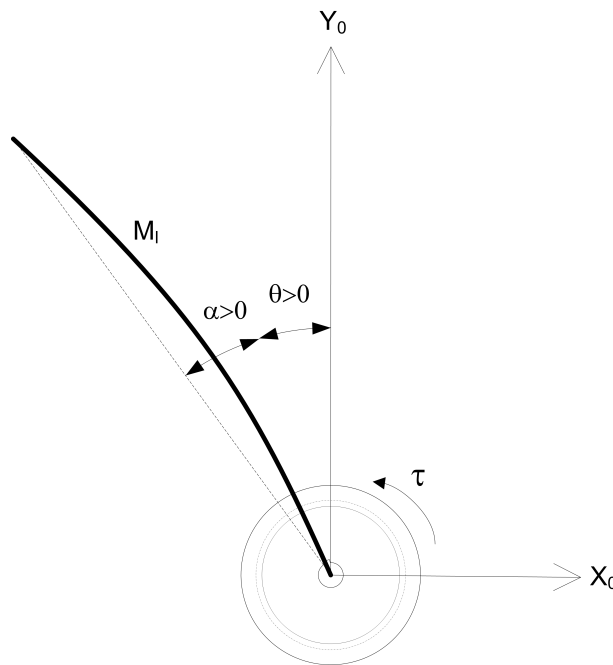
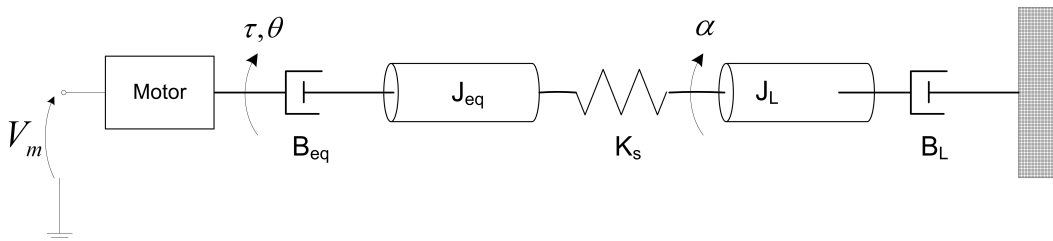

Figure 2.1: Rotary Flexible Link Angles
Figure 2.2: Rotary Flexible Link Model
The Rotary Flexible Link model is shown in Figure 2.1. The base of the flexible link is mounted on the load gear of the SRV02 system. The servo angle,  $\theta$ , increases positively when it rotates counter-clockwise (CCW). The servo (and thus the link) turn in the CCW direction when the control voltage is positive, i.e.,  $V_m > 0$ .
The flexible link system can be represented by the diagram shown in Figure 2.2. Our control variable is the input servo motor voltage,  $V_m$ . This generates a torque,  $\tau$ , at the load gear of the servo that rotates the base of the link. The viscous friction coefficient of the servo is denoted by  $B_{eq}$ . This is the friction that opposes the torque being applied at the servo load gear. The friction acting on the link is represented by the viscous damping coefficient  $B_L$ . Finally, the flexible link is modeled as a linear spring with the stiffness  $K_s$ .
where, as shown in Figure 2.2,  $\theta(t)$  is the servo angle and  $\alpha(t)$  is the flexible link angle. The corresponding velocities are
1. Energy is stored in the flexible link, i.e., the "spring", as it *flexes* by an angle of  $\alpha$  (see Figure 2.1). Find the potential energy of the flexible link. Use the parameters shown in Figure 2.2.
2. Find the total kinetic energy of the system contributed by the rotary servo,  $\theta$ , and the deflection in the link,  $\alpha$ . Use the parameters shown in Figure 2.2.